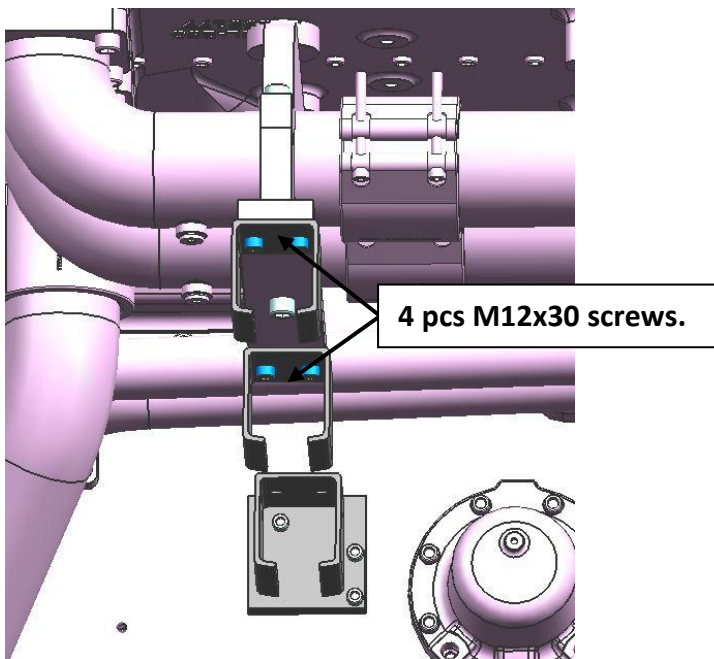

**Figure 4.** Rails which will be removed.
Remove the left-hand and the middle cable rail in the engine block (Figure 4). Assemble the brackets (parts 2 & 14) first to the engine. Assemble the bracket (14) in the engine block, use three M10x40 10.9 hexagon socket screw (Figure 5). Assemble two pieces of the forked brackets (part 2) to the water pipe brackets, use four M12x30 10.9 hexagon socket screw (Figure 6).